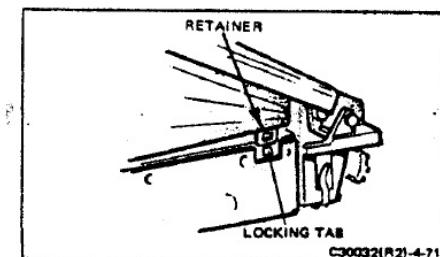
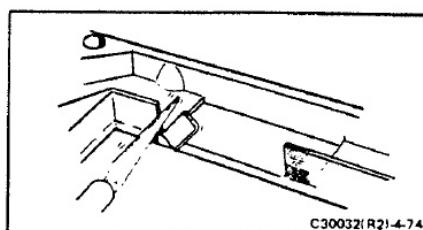

FIGURE 4-71 BOOT RETAINER
FIGURE 4-74 REMOVING "EARS" FROM EARLY INNER FRAMES
17. Snap the boot retainer into place by applying finger pressure to the two points indicated on Figure 4-71.
A second area of examination is also necessary when installing a split-image Fresnel. Check the inner frame. On very early camera models, two ears are present on the inner frame (Figure 4-74). If an early model inner frame, use an Xacto knife to cut these ears off as shown in Figure 4-71.